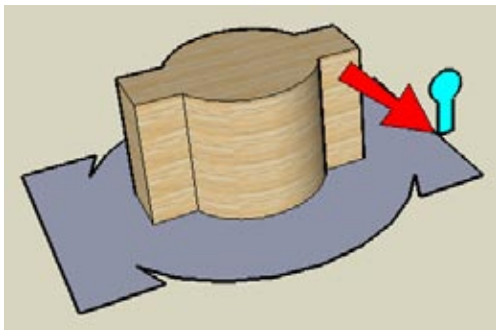

Figure 2-45
5. End the offset at the closest point on the Follow Me face (Figure 2-45).